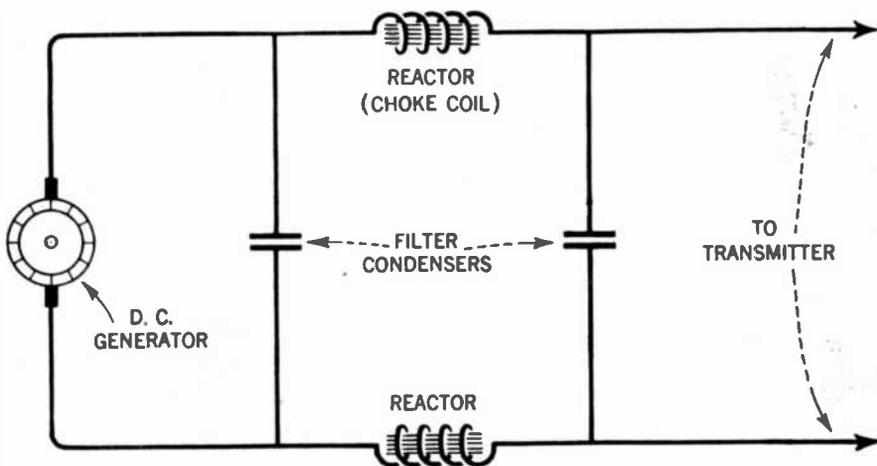

FIG. 16.—A fundamental filter system suitable for use in the plate supply circuit of a vacuum tube transmitter.
*Answer.* The network of choke coils (reactors) and high voltage condensers arranged as shown in the diagram in Figure 16 constitutes a filter system. A system of this general design is required to smooth out the slight rise and fall, or ripples, in the direct current from the generator to provide a practically steady